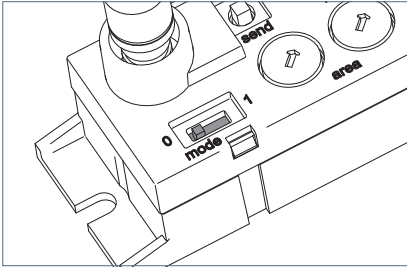

Fig. 18: Swarm control deactivated.
- ▶ Push the "mode" slide switch to position **0**, see Fig. 18, and make sure that at least one rotary coding switch is not at position **0**, for example at position **1**.